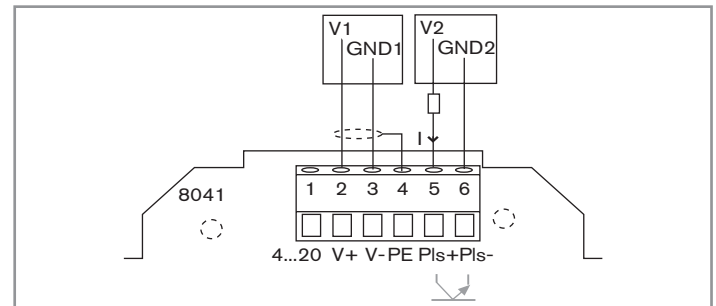

Fig. 23: Connection of the frequency output to an electromechanical counter with its own power supply
- or to a load such as an electronic counter with its own power supply (see Fig. 23).